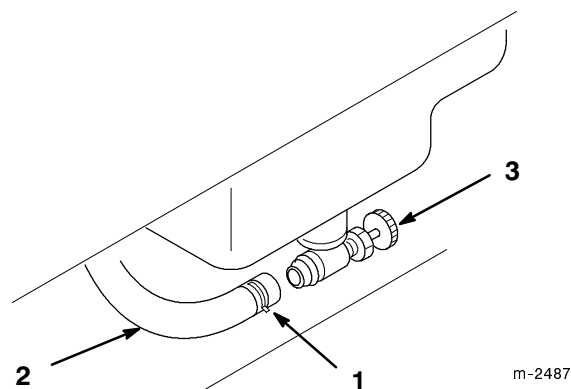

Figure 33
3. Loosen the hose clamp and slide it up the fuel line away from the fuel shut-off valve (Fig. 33).
4. Pull the fuel line off fuel shut-off valve (Fig. 33). Open fuel shut-off valve and allow gasoline to drain into a gas can or drain pan.
5. Install the fuel line onto the fuel shut-off valve. Slide the hose clamp close to the fuel shut-off valve to secure the fuel line (Fig. 33).